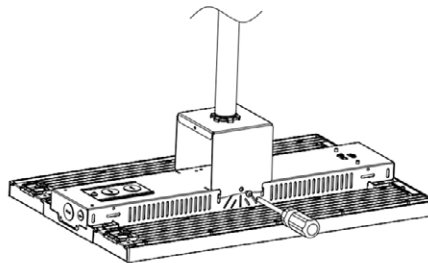

Figure 5
2. Lock fixture on the bracket (See Fig. 5)